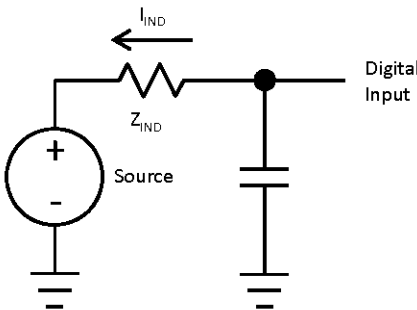

Figure 2. 5 V Tolerant Input IIND Parameter
5. Examples calculated using  $V_{IL}$  relation,  $V_{DD}$ , and max  $I_{IND}$ :  $Z_{IND}=V_{IL}/I_{IND}$ . This is the impedance needed to pull a high signal to a level below  $V_{IL}$  due to leakage when  $V_{IL} < V_{IN} < V_{DD}$ . These examples assume signal source low = 0 V. See Figure 2.